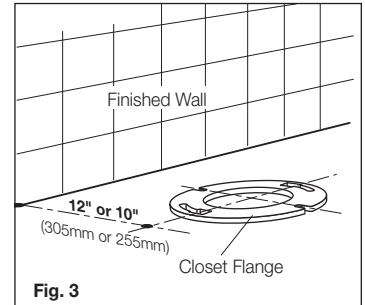

Fig. 3
- 1- It is essential for the installation of all 270 Easy Height Two Piece Washdown toilets that the closet flange be accurately set out from the finished wall as detailed in **Fig. 3**.